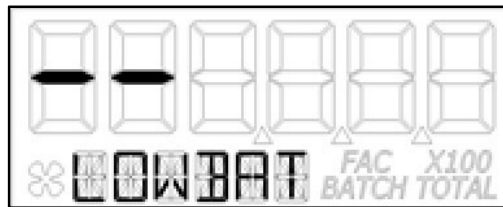

Figure 11-5
**NOTE:** If the battery life is sufficiently low, "LOWBAT" will be displayed in the information row. This low battery message will be displayed automatically without running a diagnostic battery check. (See Figure 11-5)